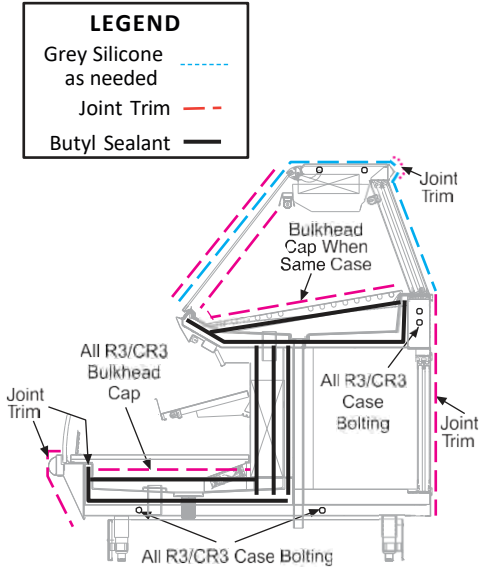

Fig.2, #1
- Apply liberal beads of case joint sealant (butyl) to the areas (solid dark lines) shown in the diagram below (Fig.2, #1) of the first case.